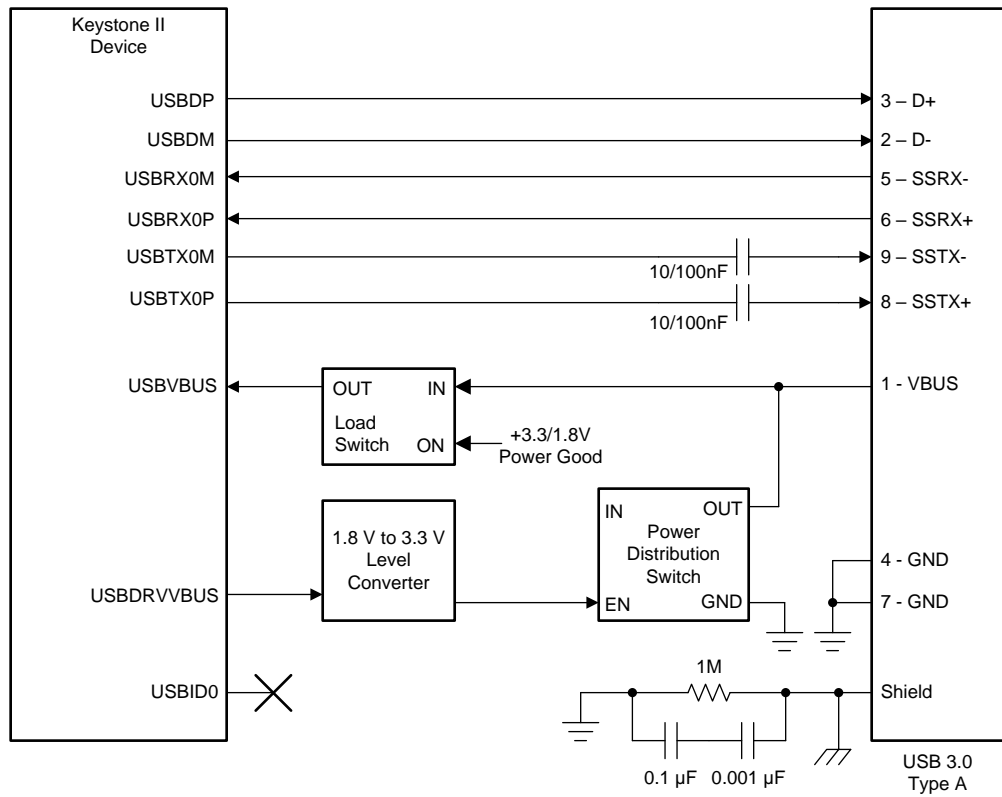
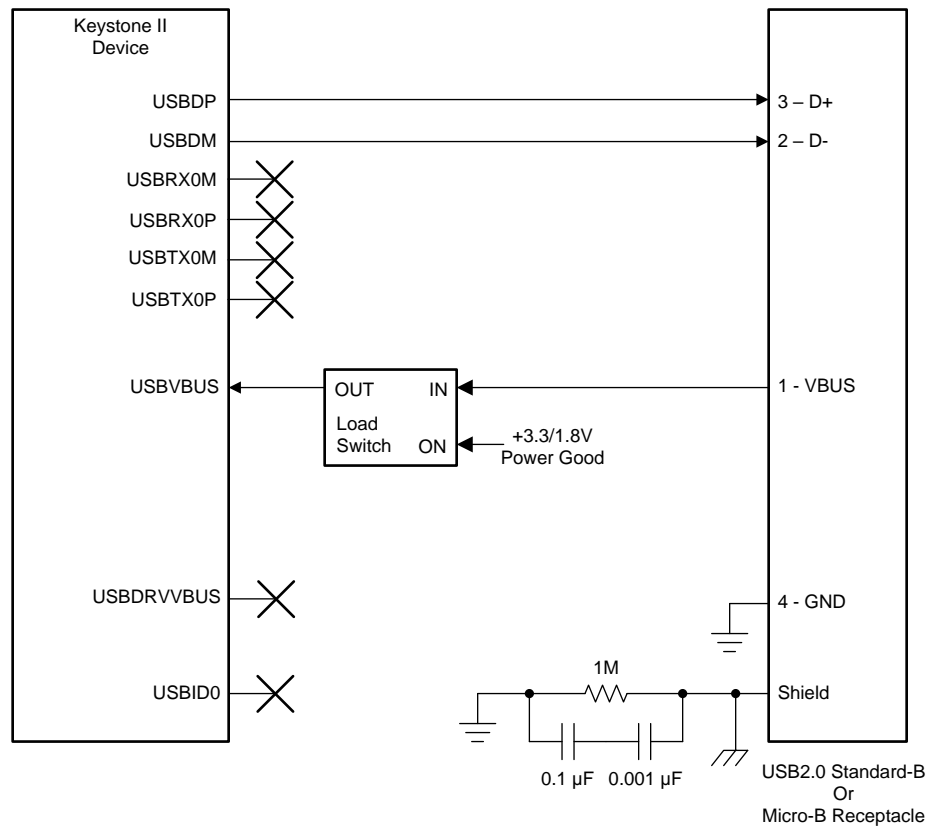

Figure 5. USB3.0 Host Connection
Figure 8. USB2.0 Device Connection
- The connection diagram for USB3.0 host/device and USB2.0 host/device are shown in Figure 5 through Figure 8.